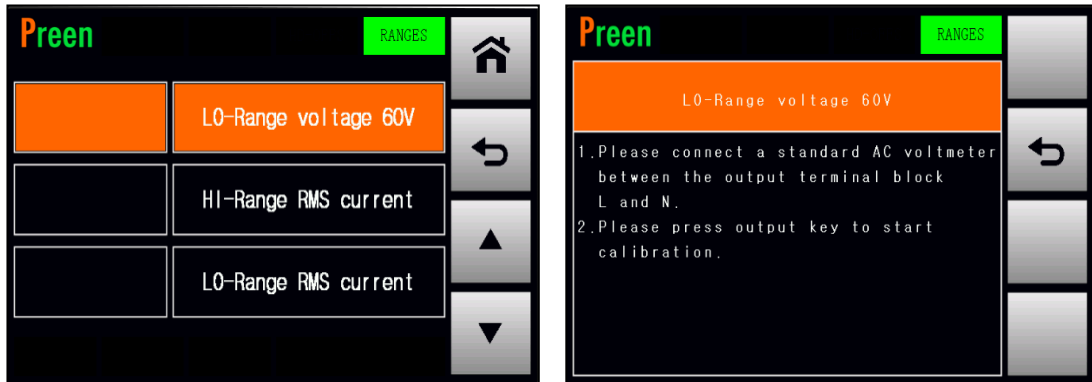

Figure 4.11 Enter into the page which calibrates the LO-Range voltage 60V
1. Press the item LO-Range voltage 60V repeatedly to enter into the page which calibrates the LO-Range voltage 60V (refer to Figure 4.11).